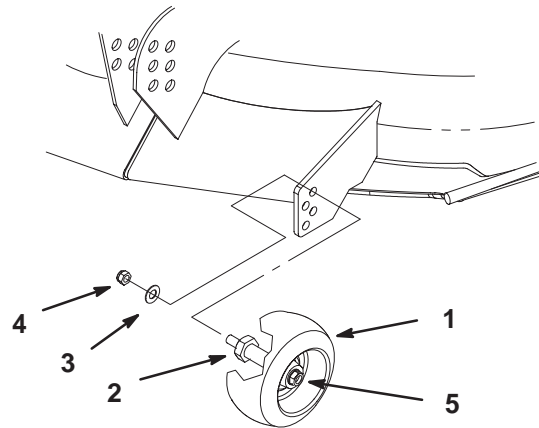

Figure 10
1. After adjusting height-of-cut remove nut and washer while holding stud with wrench (Fig. 10).
Note: Do not remove the wheel nut and washer (Fig. 10).
2. Select a hole position so the gage wheel is 3/8" (9.5 mm) off the ground for the height-of-cut to be used (Fig. 10).
3. Reinstall the stud nut and washer (Fig. 10).